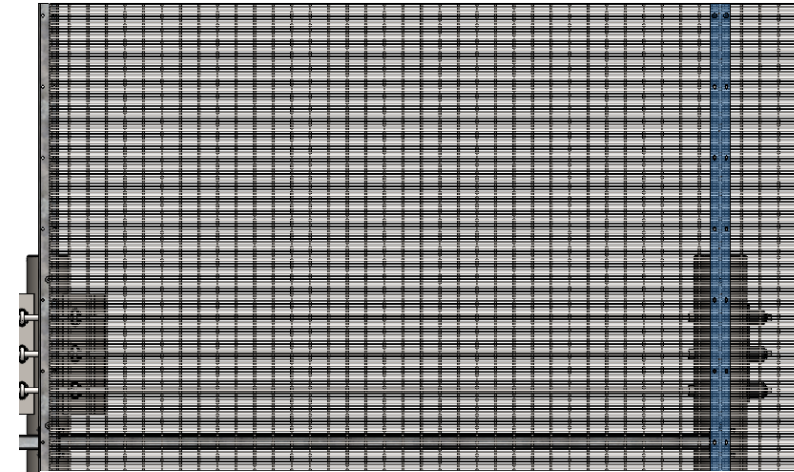

Figure 17
2. While holding the 1st and 2nd panel in place, mount and fixate the cover plate using the top two fixation holes on the fence post. Insert 2x M8x100 Cup-Square Bolts.(Fig 17)